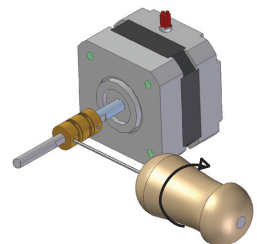

Fig. 4
3. Fasten coupling onto second shaft (fig. 4) again ensure set screw locates on flat.